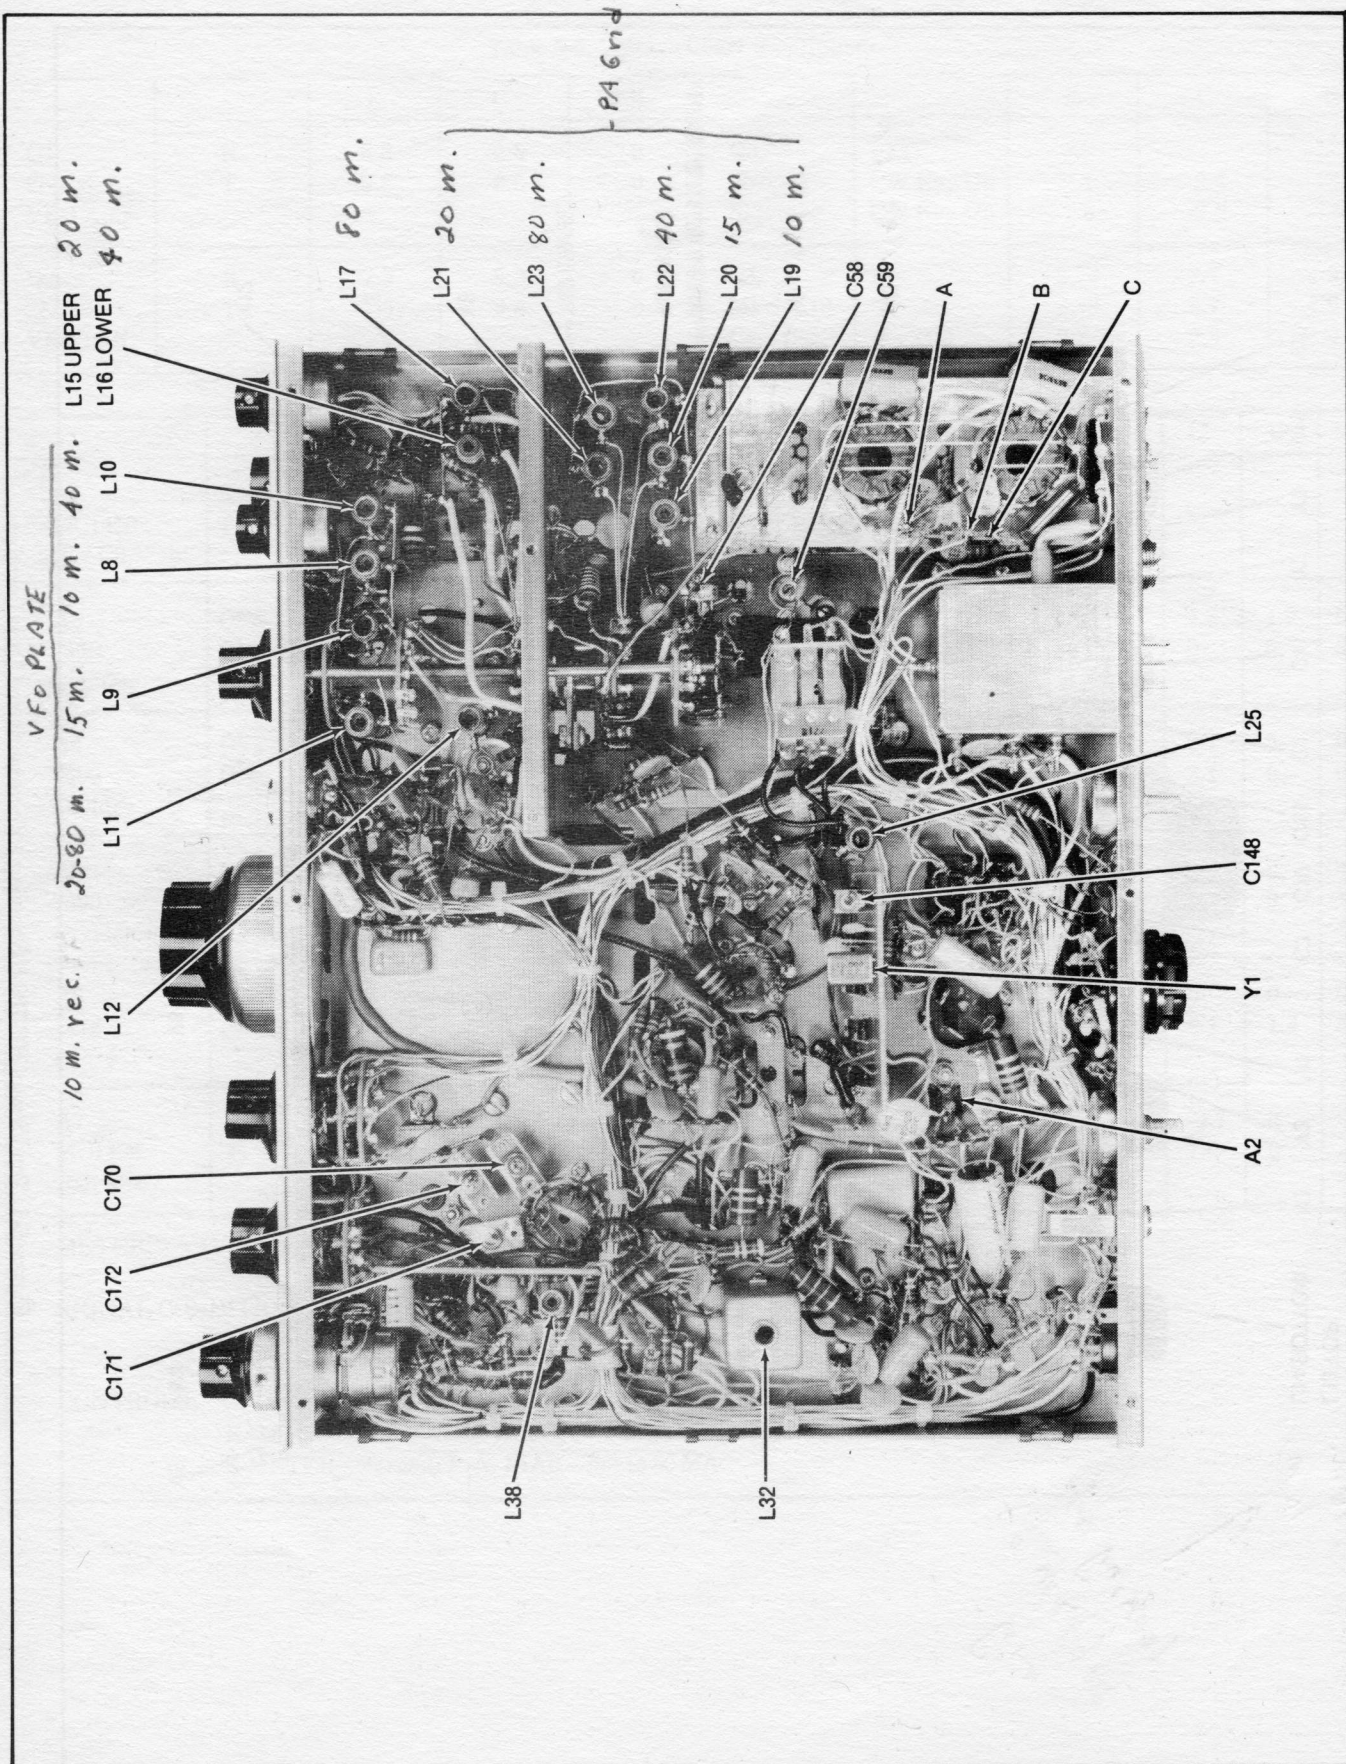

Figure 5-2. Bottom View of HF-700-S Showing Adjustments.
2. Loosely couple the calibrator to the input of the communications receiver by looping a wire around the calibrator crystal, Y1. (See Figure 5-2 for the location of Y1). Tune the communications receiver to WWV at 10
MHz. The beat note you hear is the beat between the crystal frequency and WWV. Zero-beat the calibrator oscillator to WWV with C148. (See Figure 5-2 for the location of C148).
5-32 The carrier oscillator frequency adjustment was covered in a previous paragraph. The plate coil of the carrier oscillator can be tuned separately without affecting the oscillator frequency significantly. Adjusting the carrier oscillator coil insures that the injection level is proper. The coil (L38, See Figure 5-2) is adjusted for minimum noise from the receiver output. When the output of the carrier oscillator is maximum, the harmonics of the crystal are minimized which minimizes the noise products generated in the product detector.